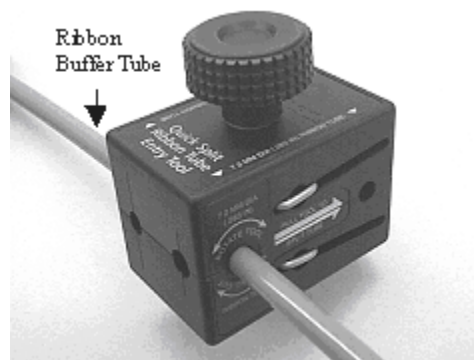

Figure 2 – Ring cutting the buffer tube.
4.2 Each body section also contains a semi-circular groove that runs perpendicular to the splitting groove. This groove is positioned such that the corner of the razor blade scores the buffer tube as the tool is rotated around the tube (Figure 2).